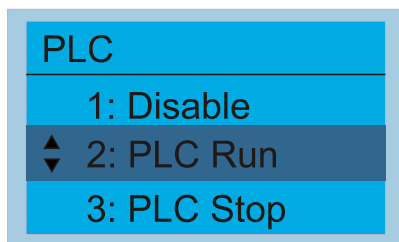

Figure 16-5
PLC functions are as shown in Figure 16-5 on the left; select item 2 PLC Run to enable the PLC functions.